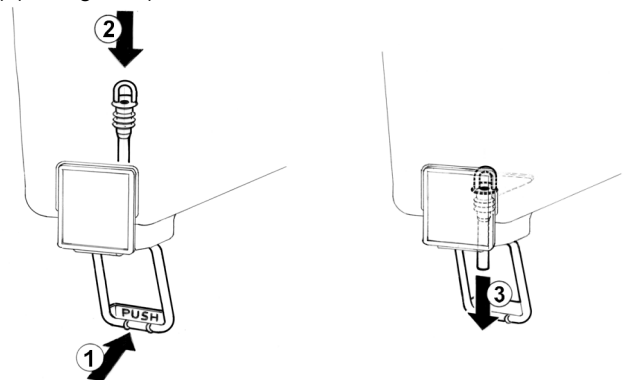

figure 4
2 Pinch tube faucet: push the dispensing handle (1) and insert the pinch tube into its vertical seat in the bowl bottom(2). Lightly pull the pinch tube end downwards til it is well arranged (3) (see figure 4).